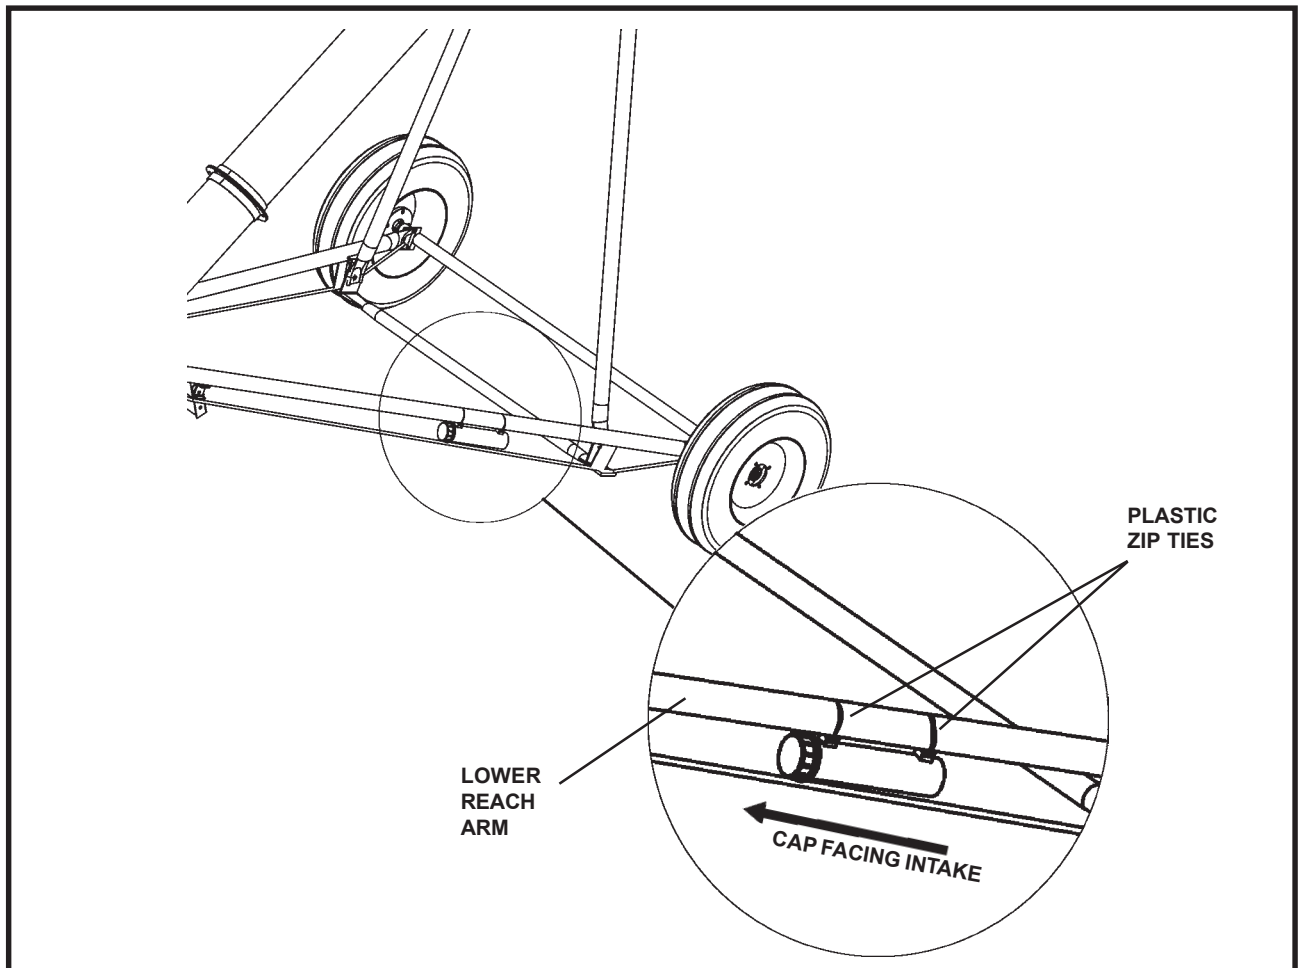

Figure No. 37
1. Locate the best place on your auger for the installation of the manual holder. We suggest attaching the holder onto the lower frame arms, as shown in **Figure No. 37**. The manual holder should be accessible at all times, regardless of frame position (up or down).